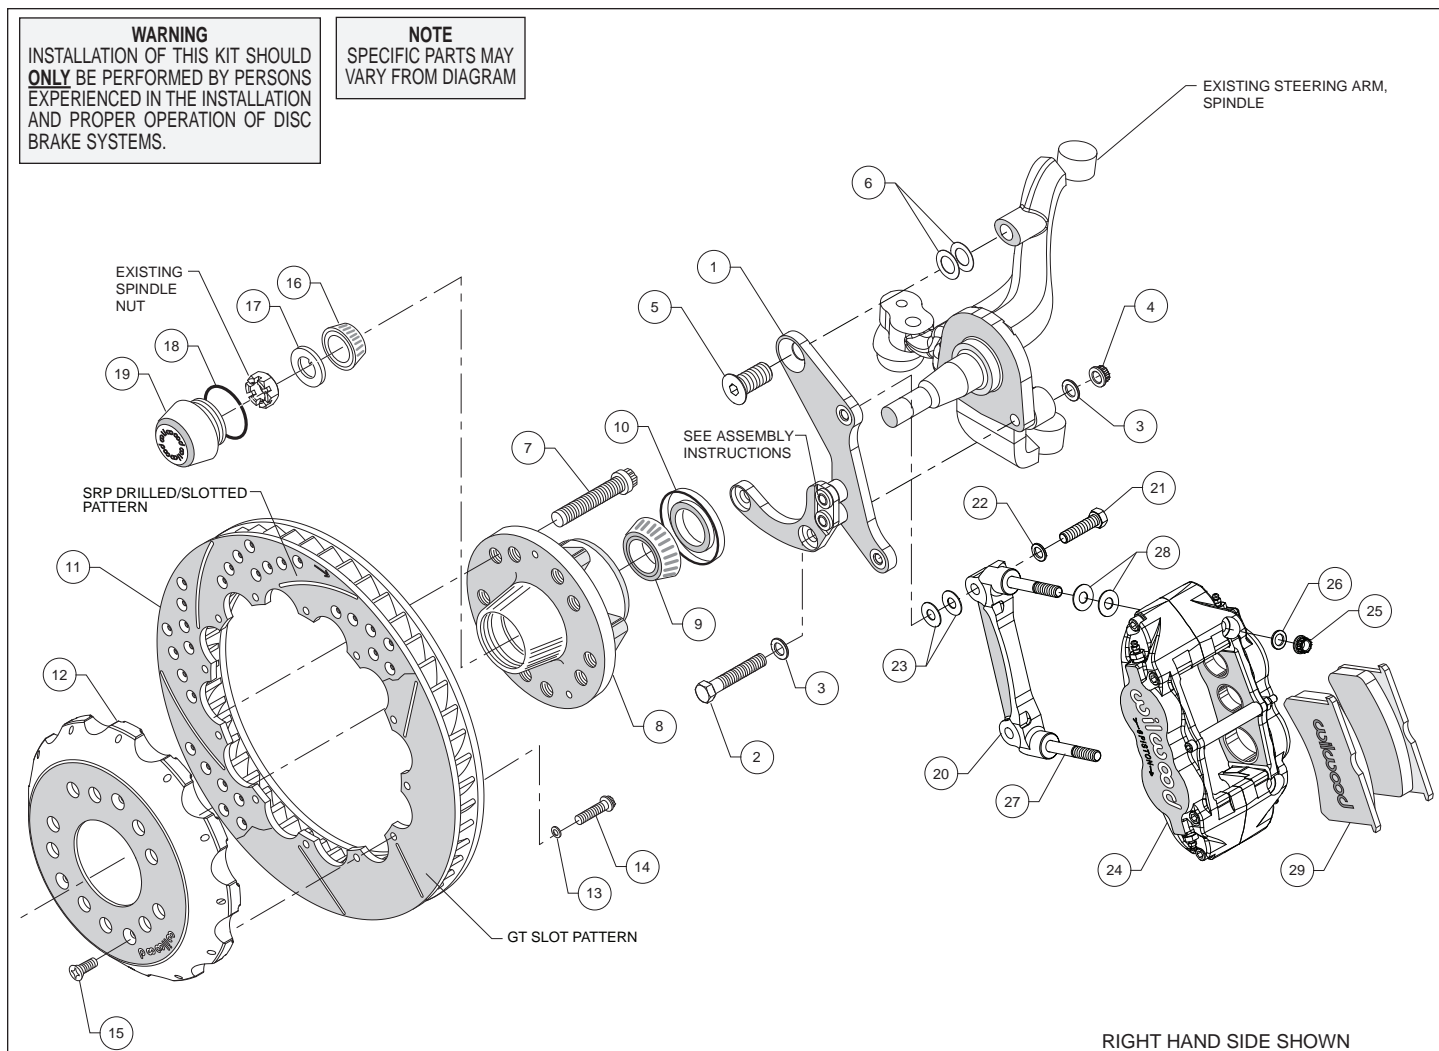
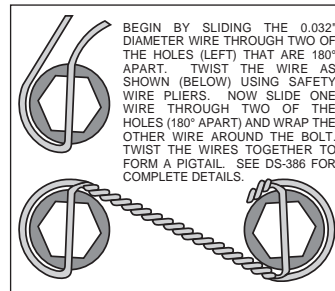
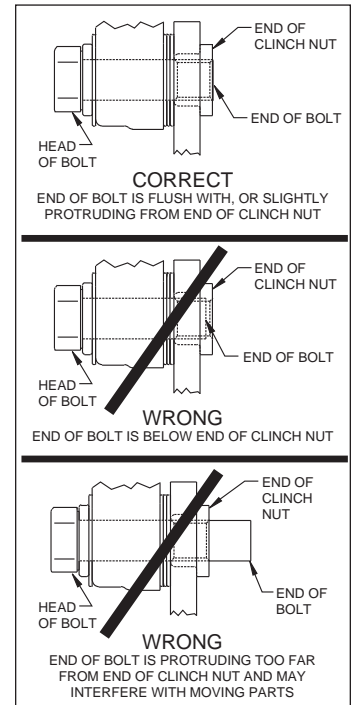

Figure 1. Typical Installation Configuration
Figure 3. Safety Wire Diagram
Figure 4. Clinch Nut Engagement Diagram
Assembly Instructions (numbers in parenthesis refer to the parts list and Figure 1 on the preceding pages): **CAUTION:** All mounting bolts must fully engage clinch nuts. Be sure to check that all bolts are either flush or protruding through flanged side of clinch nut after shimming, Figure 4.
The spindle bracket (1) has been assembled at the factory for alignment purposes. Loosen the two bolts that secure the brackets together so that the bolts are hand tight only. This will enable the bracket assembly to be adjusted to accommodate various spindle tolerances during assembly. Align bracket with the two lower holes on the spindle face and attach using bolts (2), washers (3), and secure using nuts (4), as shown in Figure 1 and Photo 1. Install bolt (5) through top of bracket while placing shims (6) between bracket and spindle, Figure 1. Initially use two .024" thick shims (6) on the top bolt between the bracket and upright. Temporarily tighten the mounting bolts. Ensure that the flanged heads of the clinch nuts in the bracket are facing outboard, Photo 1. **NOTE:** The bracket must fit squarely against the mounting points on the spindle. Inspect for interference from casting irregularities, machining ridges, burrs, etc. Some spindles may require a small amount of grinding to clear the bracket assembly in the area of the bracket-to-bracket spacers.
Check that the bracket is aligned parallel to the rotor by assembling and installing the hub/rotor per the step below. If not, adjust by adding or subtracting shims (6) between the spindle and bracket, Figure 1.
- Orient the rotor (11) and the hat (12) as shown in Figure 1 and Photo 4. Attach rotor to hat using bolts (14) and washers (13). Using an alternating sequence, apply red *Loctite*® 271 to the threads, and torque to 155 **in-lbs**. For an added measure of security, the bolts may be safety wired using standard 0.032 inch diameter stainless steel safety wire as shown in Figure 3. Refer to Wilwood's data sheet DS-386 (available at www.wilwood.com/Pdf/DataSheets/ds386.pdf) for complete safety wire installation instructions.
- Slide the hat/rotor assembly (11/12) onto the hub (8) taking care to align the small countersunk holes in the hat (12) with the small threaded holes in the hub. **NOTE:** *The hat must fit flush against the hub face or excessive rotor run out may result.* Install three flat head screws (15) through the small holes in the hat, Photo 6, and torque to 85 **in-lb**.
- The caliper mount bracket (20) should initially be installed with clean, dry threads on the mounting bolts. Orient the bracket as shown in Figure 1 and Photo 7, and install using bolts (21) and washers (22). Initially place two .035" thick shims (23) on each bolt between the bracket and the spindle bracket (1), Figure 1. Temporarily tighten the mounting bolts. Later, after the caliper alignment has been checked, the mount bolts will be secured using red *Loctite*® 271.
- **NOTE:** *This kit contains distinct right and left hand calipers that must be mounted in a specific direction, as described below.* Lubricate the caliper mounting studs (27) with lightweight oil. Initially place two .035" thick shims (28) on each stud between the caliper and the bracket, as shown in Figure 1 and Photo 8. Mount the caliper (24) onto the bracket (27) using lock nuts (25) and washers (26), Figure 1. Ensure that the caliper is mounted so the largest pistons are at the rotor exit end of the caliper, in relation to the direction of rotor rotation. Temporarily tighten the lock nuts and view the rotor through the top opening of the caliper. The rotor should be centered in the caliper, Photo 9. If not, adjust by adding or subtracting shims (23) between the spindle bracket (1) and the caliper bracket. Always use the same amount of shims on each of the two mounting bolts. **NOTE:** *The end of each bolt must be flush with or slightly protruding from the head of the clinch nut, as shown in Figure 4. If necessary place spare shims between washer (22) and caliper mounting bracket to achieve the proper clinch nut engagement. Once the caliper alignment and clinch nut engagement are correct, remove the bolts one at a time, apply red *Loctite*® 271 to the threads, and torque to 40 ft-lb.*